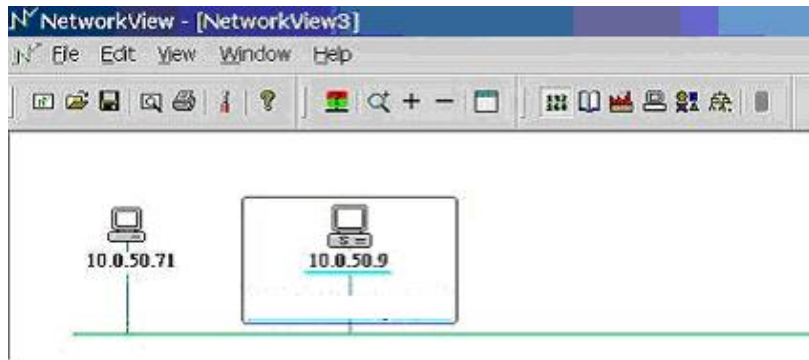

Fig. 41.
3. After the search is complete, NetworkView will display the devices found on the main window, as shown below(Fig. 41)